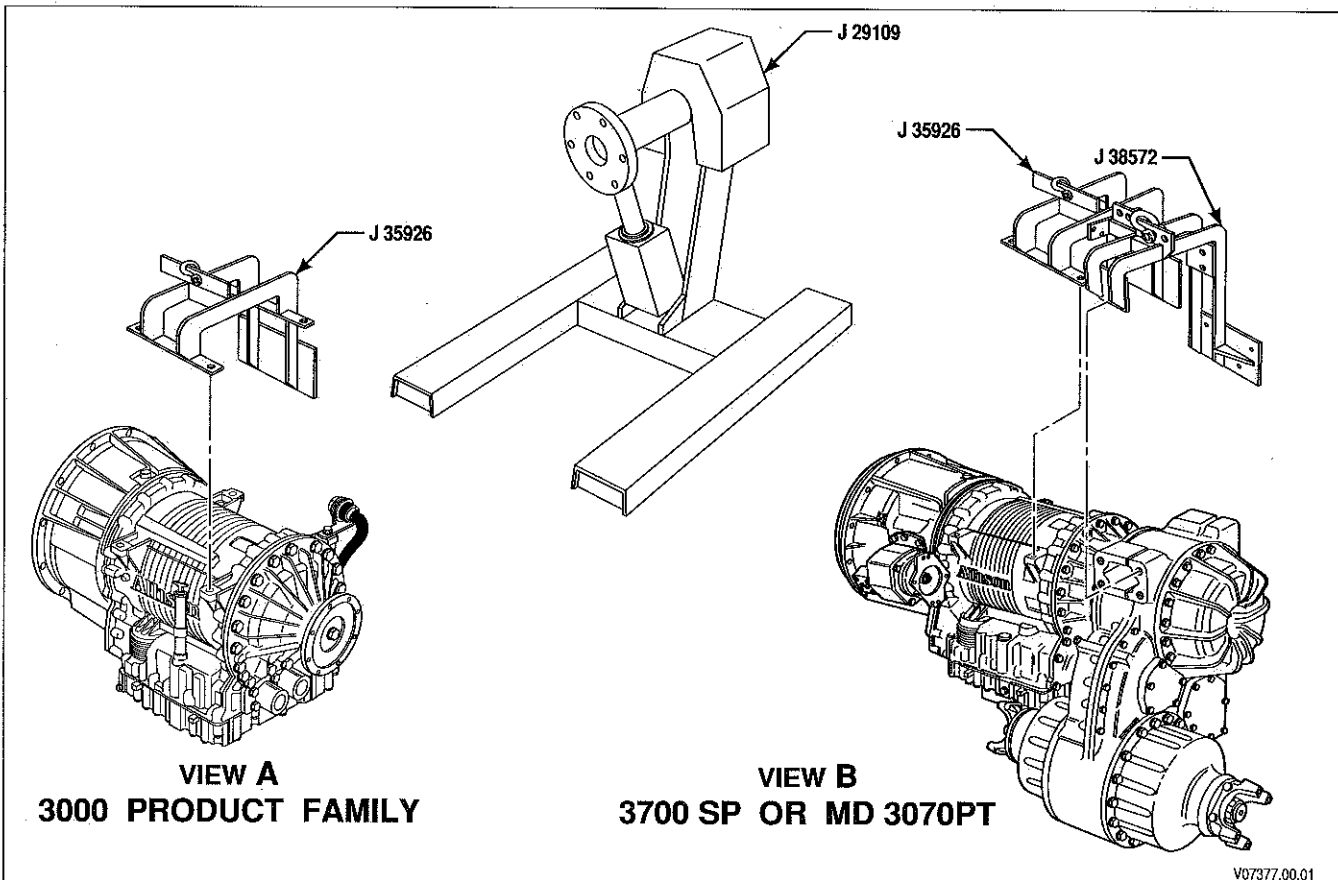

Figure 6-22. Removing Transmission From Repair Stand
**x. Removal of Transmission From Repair Stand** (Figure 6-22). Using a hoist, remove the transmission and holding fixture from the repair stand and prepare for vehicle installation.